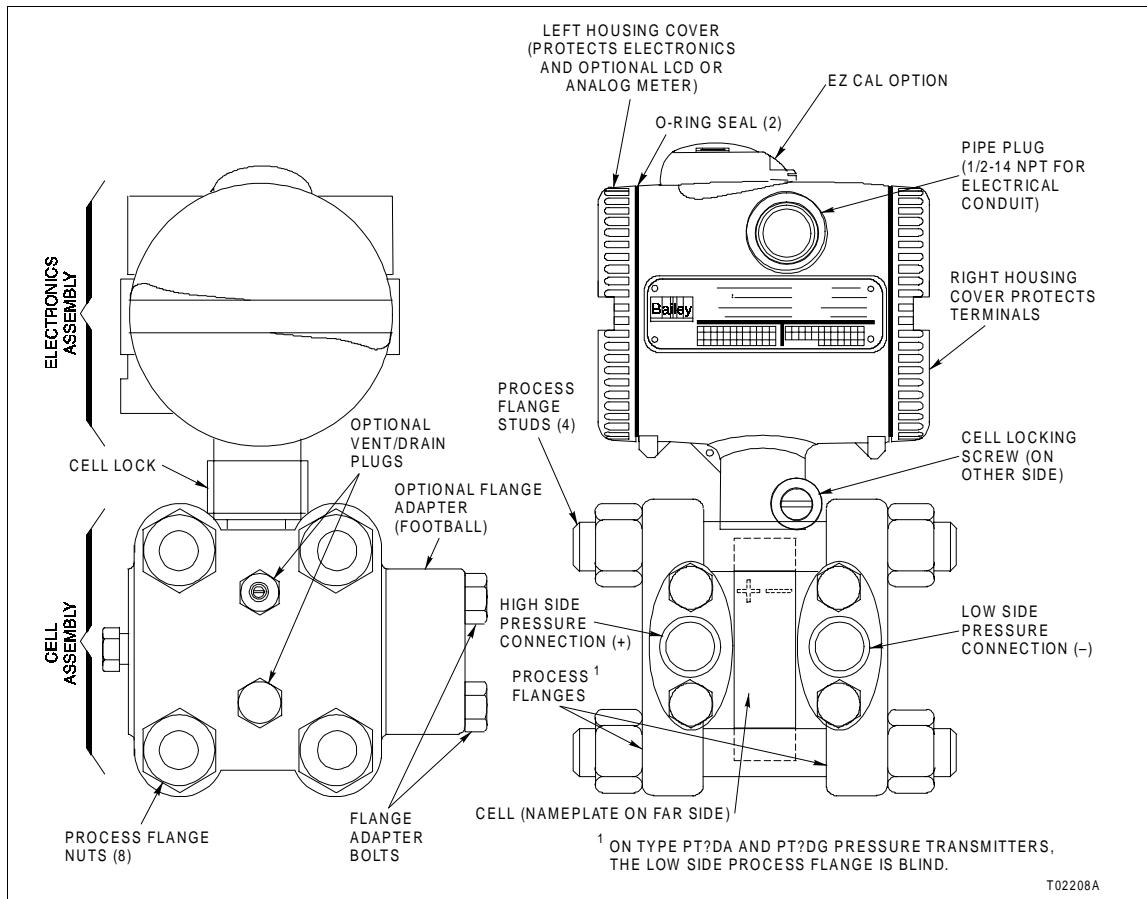

Figure 8-3. Type PTSD Pressure Transmitter
2. Remove the left housing cover from the electronics housing (Fig. 8-3).
6. Use the 4-mm Allen wrench to remove the cell locking screw (Fig. 8-3).
7. Remove the cell lock (Fig. 8-3).
10. Install the cell lock and tighten the cell locking screw (Fig. 8-3).
2. Remove the housing covers from the electronics housing (Fig. 8-3). If the housing covers **do not** require replacing, go to Step 3. If the housing covers **do** require replacing, go to Step 6.
3. Remove the housing cover O-rings (Fig. 8-3).